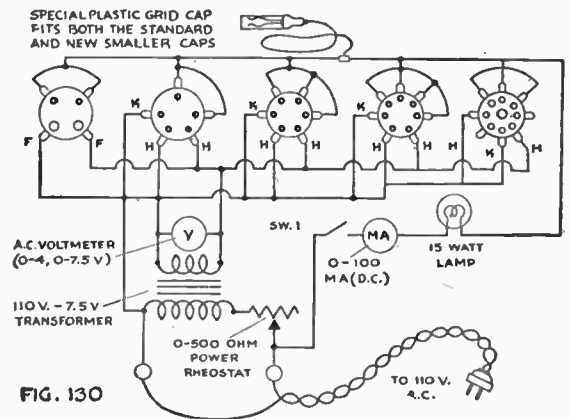

FIG. 130
**A Simple Tube Checker:** To differentiate accurately between good tubes and worn tubes, some form of tube-checking circuit must be employed. Although many elaborate tube checkers are sold for use by servicemen, the amateur experimenter can make an inexpensive yet highly efficient unit by following the simple wiring diagram shown in Fig. 130.